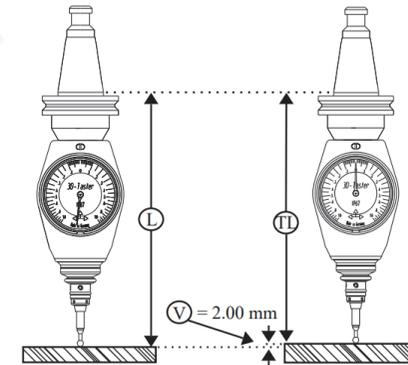

Fig. 1
- Confirm the effective total length TL of the 3D table (Fig.1)
- The effective total length (TL) =total length (L) - compensation value ($V=2\text{mm}$);
- Enter the effective total length (TL) into the machine tools as the tool length.